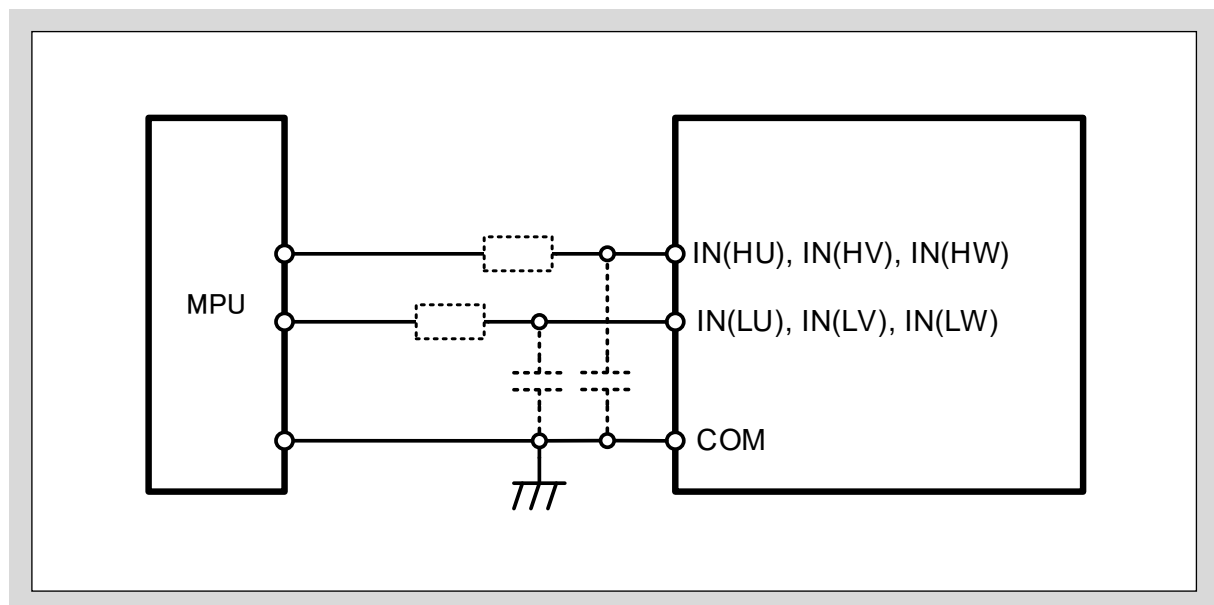

Fig. 3-15 Recommended MPU I/O interface circuit of IN(HU,HV,HW), IN(LU,LV,LW) terminals
- Fig. 3-15 shows an example of interface circuit between MPU and the product. The input terminals can be connected directly to the MPU. The input terminals have built-in pull-down resistors, so there is no need for external pull-down resistors. Also, the input logic is high active, thus there is no need for external pull-up resistors.
- Insert RC filter circuit as shown by the dotted line in Fig. 3-15 if noise is superimposed on long signal wire. Adjust the RC constant according to the PWM control method and the wiring pattern of the printed circuit board.